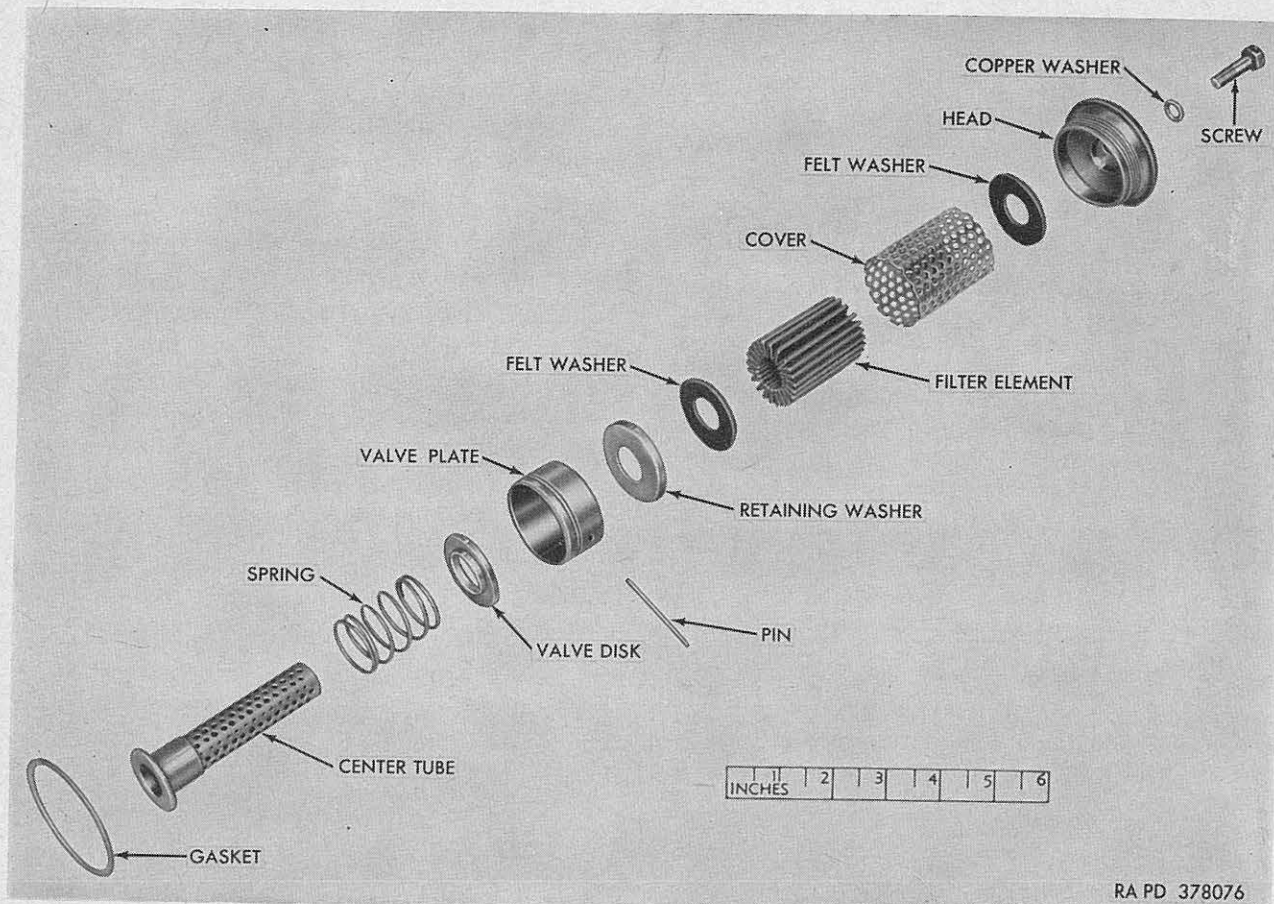

Figure 5. Oil filter—exploded view.
*c. Disassembly (fig. 5).* Remove locking wire from hex-head screw, remove screw and copper washer; and remove filter head, felt washer, cover, filter element, felt washer and retaining washer from the center tube in the order named. Remove pin securing perforated valve plate to center tube and remove plate, valve disk and spring from tube in the order named.